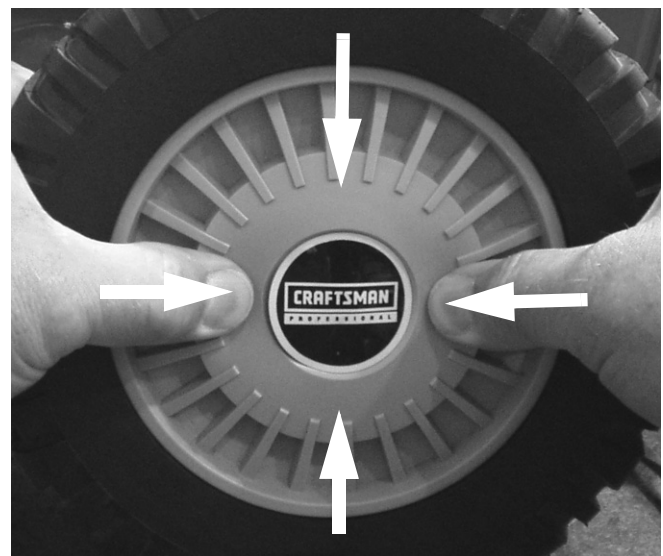

FIGURE 8
21. Install the clean hub caps by firmly pressing in around the outer edge of the center raised area of the hub cap until a light snap is heard. See Figure 8. Allow adhesive to set for 2-3 hours before using mower.